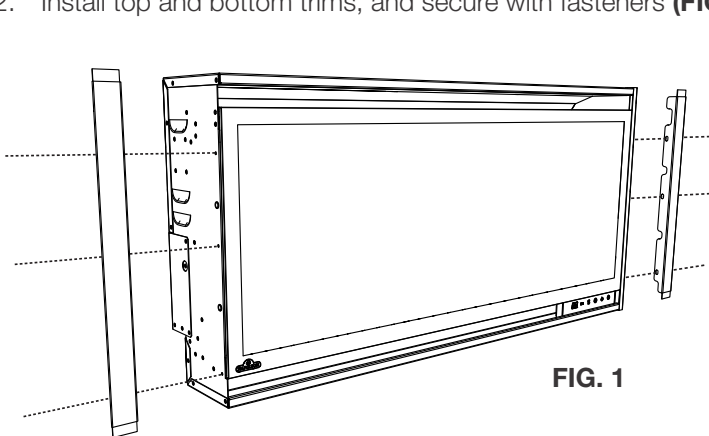

FIG. 1
3. Place appliance face down on a soft, non-abrasive surface. Remove the bracket from the back of the appliance by removing the screws (**FIG. 1**).
1. Install left and right panels (**FIG. 1**) by securing 4 fasteners (2 per panel) to bottom of appliance (**FIG. 2**).
3. Remove the plastic panel holders by removing the screws (**FIG. 1 and 2**).
1. Install left and right trims, and secure with fasteners (**FIG. 1**).